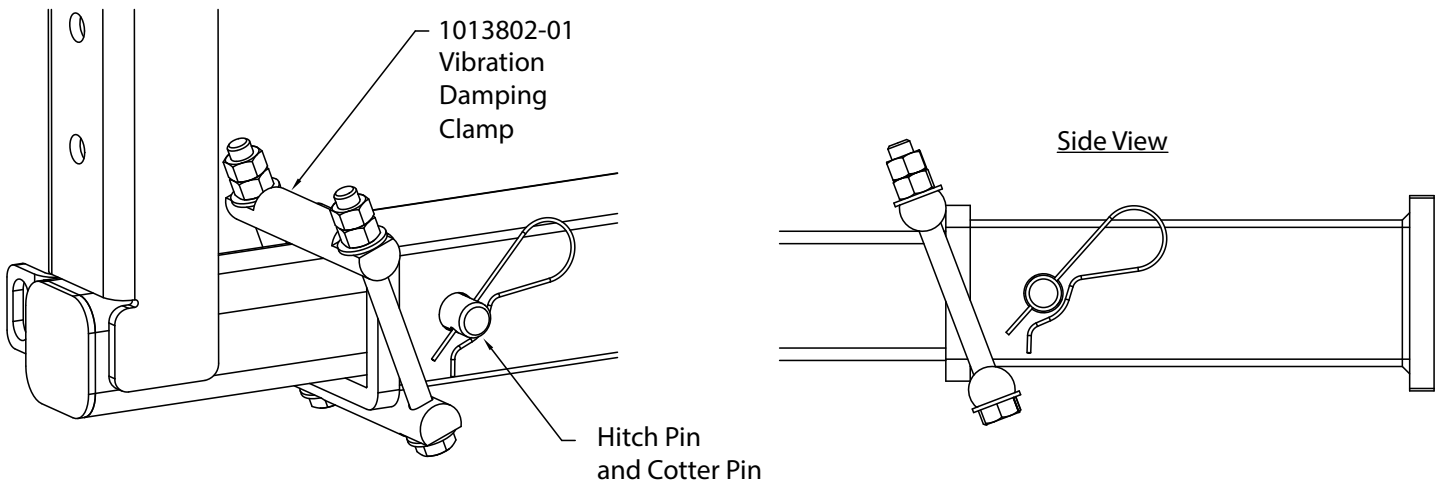

Figure 3: North American Hitch Pin and Vibration Damping Clamp
- b. Insert the L-bracket (1013258-01) post into the tow hitch. Fasten the hitch pin with the cotter pin. To prevent excessive vibration, fasten the vibration damping clamp (1013802-01) around the tow hitch and L-bracket. Ensure that the locknut is tightened to prevent loosening from excessive vibration. See Figure 3.